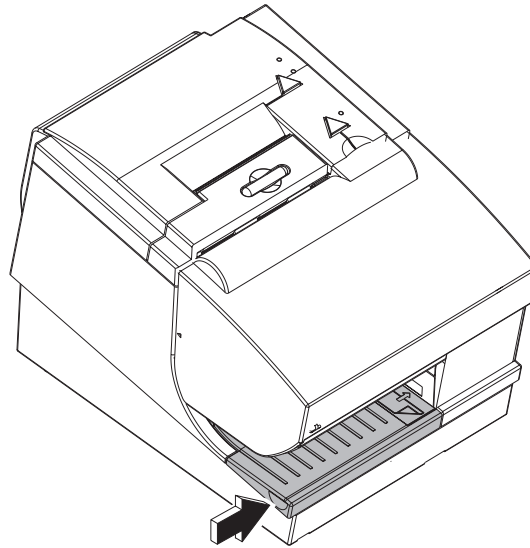

Figure 21. Removing the flipper door (lower document insert cover)
1. Lift up the left front corner of the flipper door (document insert cover) and pull the cover from the printer. (See Figure 21.)